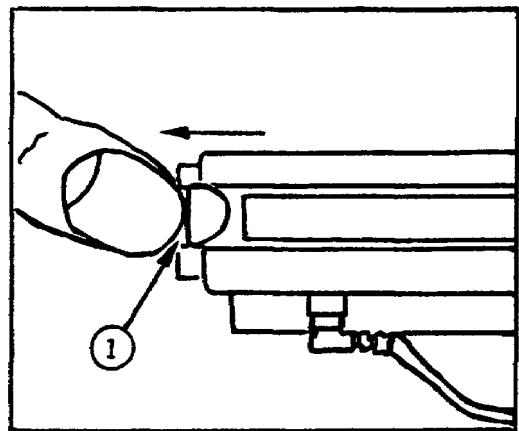

Figure 1-14. Opening Camera Back.
a. To open the camera back, pull the camera case latch (right corner) ① out and the camera back will pop open (fig 1-14).